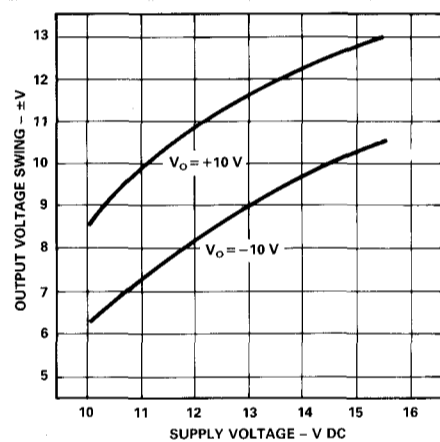
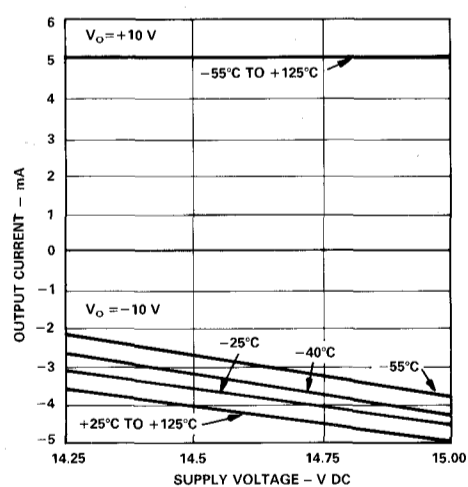

Figure 9. Output Voltage Swing ($\pm V$) vs. Power Supply Input Voltage (V DC), with a 2.5 k Ω Load
Figure 10. Output Current (mA) vs. Supply Voltage (V DC) and Temperature (°C), with V_{ISO} Loaded at 5 mA
- ³For additional information on the Rated Output parameters, refer to Figure 9 for a plot of the Output Voltage Swing vs. Power Supply Voltage, and Figure 10 for the Output Current vs. Temperature and Power Supply Voltage relationship.
- ⁶Refer to Figure 9 for a plot of output voltage swing versus supply voltage.
Rated Output. The rated output voltage, across the OUT HI and OUT LO terminals, for the AD203SN is specified at ± 10 V. This specification applies when the AD203SN is powered by a +15 V dc supply. The rated output voltage level is, however, affected by the input power supply voltage and the loads placed on the isolated power supply. This dependency is illustrated in Figure 9.
The current delivered by the output terminals of the AD203SN will vary as a function of the supply voltage and operating temperature. These relationships are illustrated in Figure 10.